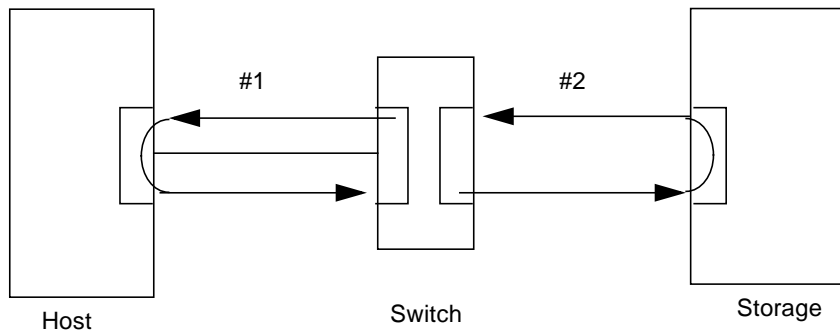

FIGURE 20 Sun StorEdge StorTools 4.x Switch Test or SANSurfer GUI Start Test
- Switch to HBA and return path when running on a selected port. See #1 in FIGURE 20.
- Switch to array and return path when running on a selected port. See #2 in FIGURE 20.